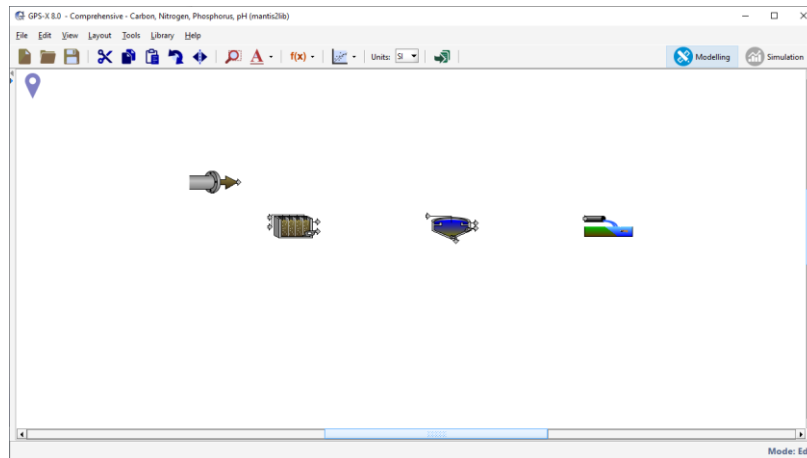

Figure 1-5 – Enlarged Drawing Board Area
8. **Zoom in or out** by selecting a region in the **Locator** window (left-click, drag and release). Try selecting an area much larger than the rectangle currently displayed in the **Locator** window. When you release the mouse button the drawing board is refreshed and the icons on the drawing board appear smaller. Try dragging-out a smaller rectangle around the process units and note the effect in the main drawing board area. You should see an enlarged view like that shown in **Figure 1-5**.